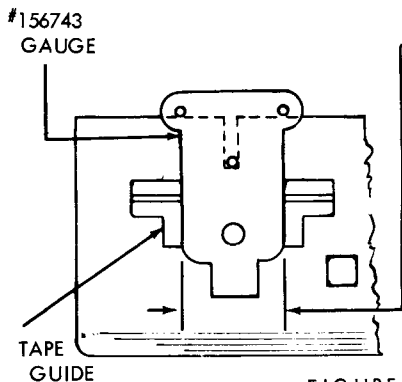

FIGURE 1-4 . TAPE GUIDE PLATE
- (A) REMOVING FRONT PANEL----PULL OUTWARD ON LOWER RIGHT AND LEFT REAR CORNER OF FRONT PANEL AND SLIDE PANEL TOWARD THE FRONT. REPLACE IN REVERSE ORDER.
- (B) REMOVING COVER PLATE----LIFT LEFT END OF COVER PLATE TO DISENGAGE DETENTS THEN SLIDE PLATE TOWARD THE LEFT TO DISENGAGE SPRING PLATE. REPLACE IN REVERSE ORDER.
- (C) REMOVING TOP PLATE----WITH FRONT AND REAR MOUNTING SCREWS LOOSENED (DO NOT DISTURB MOUNTING NUTS) AND TAPE LID RAISED, LIFT PLATE UPWARD. REFER TO FIGURE 1-4 WHEN REPLACING PLATE.